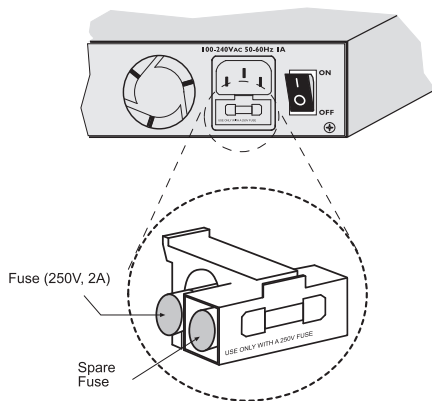

Fig. 3-3 Fuses
2. Check the external fuse located at the back of unit (below the AC power connector). If the fuse is blown, replace it with the spare fuse provided with the unit. (See Fuse Compartment display in Figure 3-3)